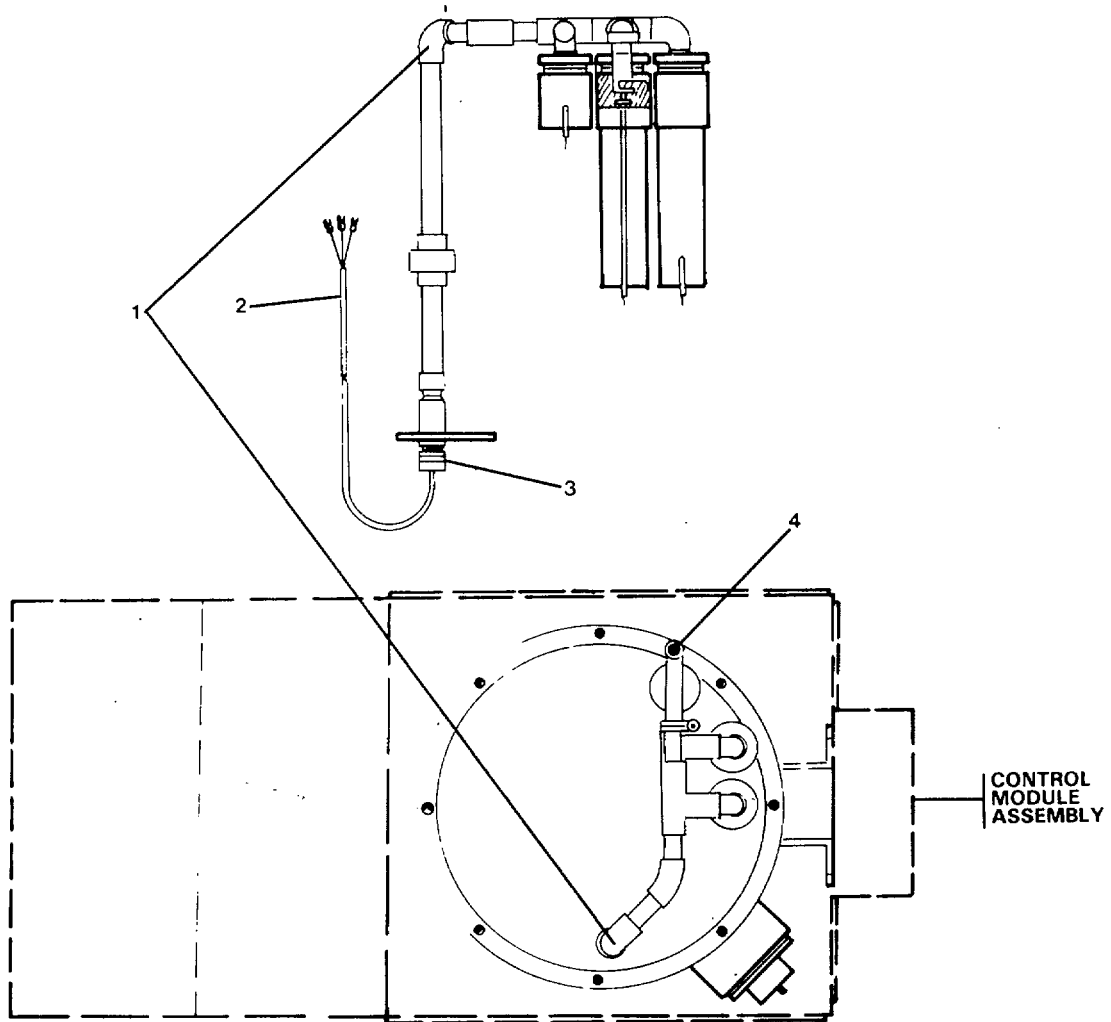
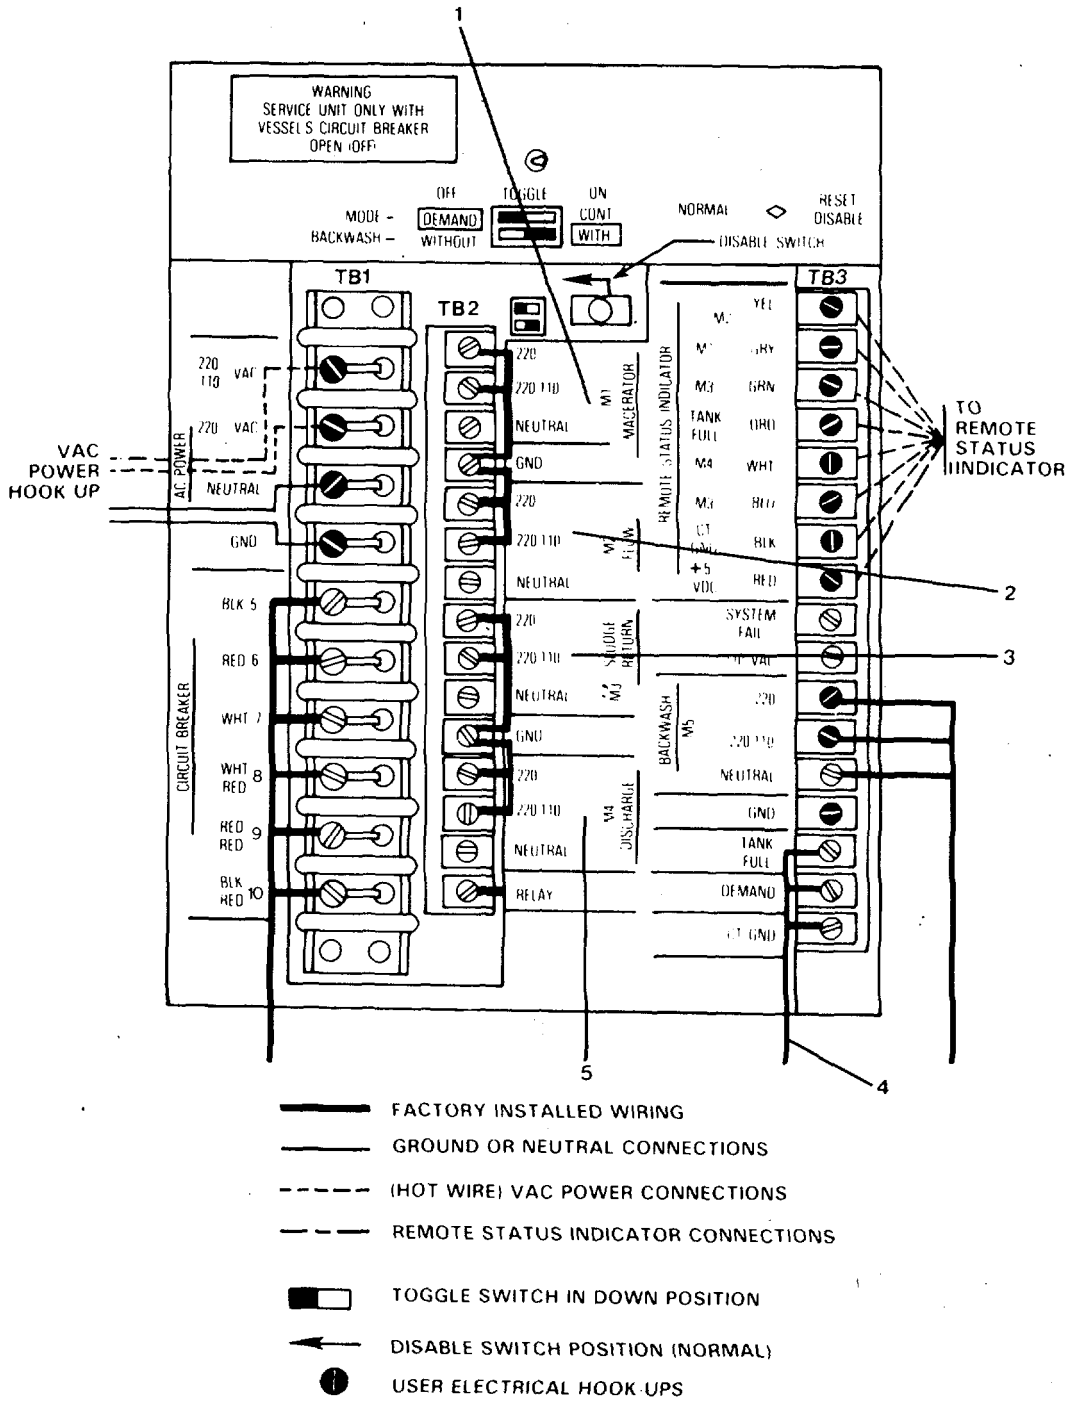

Figure 2-16. Level Sensor Assembly.
Figure 2-17. Pump Circuits on Circuit Card Assembly.
- a. Refer to the terminal board 3 (TB3) (4, FIGURE 2-17). Use a multimeter on the voltage scale and check for proper voltage at the level sensor terminals in the control module assembly. Check the voltage between CT GND and DEMAND terminals on TB3. Also check between CT GND and TANK FULL terminals on TB3. Both readings should be 110-120 Vac. If there is no voltage, or if the voltage is lower than required, check the control module assembly (Table 2-2, Item 5).
- (1) Place the mode switch on the control module assembly in the continuous mode (paragraph 2-6).
- (2) If the sanitary unit operates properly in the continuous mode, either the level sensor connections or the control module assembly are defective.
- d. Tag and disconnect the sensor wiring (2, FIGURE 2-16) in the control module assembly at their terminals on the circuit card assembly. See FIGURE 2-17 for terminal identification. The level sensor terminals are at the bottom of TB3 marked TANK FULL, DEMAND, and CT GND.
- f. Disconnect the mounting connection (3, FIGURE 2-16) from the underside of the unit.
- g. Disconnect the probes bracket screw (4).
- h. Remove the assembly (1) from the treatment tank.
- a. Run the wiring, (2, FIGURE 2-16) of a new assembly (1) through the opening in the treatment tank.
- b. Position the level sensor assembly in the treatment tank and connect the probe bracket with screw (4).
- c. Install the mounting connection (3) from the underside of the unit.
- e. Connect the wiring to their proper terminals on the circuit card assembly in the control module. Refer to (4, FIGURE 2-17) for terminal identification. The level sensor terminals are on TB3 marked TANKFULL, DEMAND and CT GND.
- (1) With the electrical power OFF, open the control module assembly and check the pump leads on the circuit board for breaks or loose connections. Refer to (5) FIGURE 2-17 for terminal identification. Tighten connections or replace leads as required.
- (2) Turn electrical power ON and place the sanitary unit in the CONTINUOUS mode (paragraph 2-6b). Flush one of the commodes.
- (3) Use a multimeter and test for proper voltage across the poles marked 220 and 220/110 on the pump terminals on the circuit board in the control module assembly. Refer to (5) FIGURE 2-17 for terminal identification.
- (c) If the correct voltage reading is obtained on the terminals, go to the next step (4).
- (4) Turn the electrical power OFF.
- (5) Remove the electrical box cover on the inoperative pump to reveal the cable connections (paragraph 2-18). Check for broken leads and secure connections.
The test procedures for the flow pump system are the same as for the discharge pump system. Refer to the test procedures in paragraph 2-20; reference (2, FIGURE 2-17).